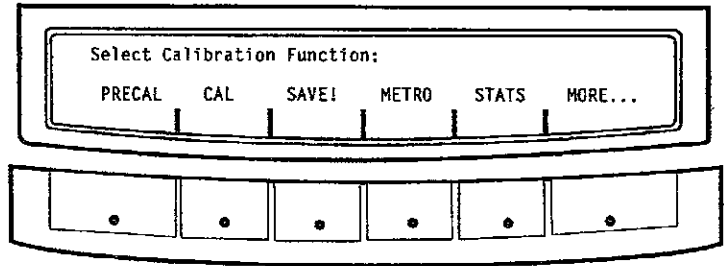

Figure 6
5. Press the **CALIB** soft key. . . The soft keys in Figure 6 appear.
Following is a description of the soft keys shown in Figure 6. A complete flow-chart showing these calibration functions appears in Appendix C.